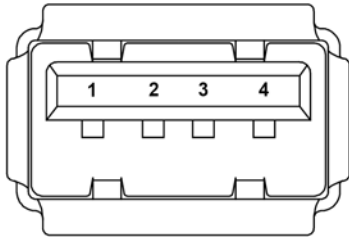

Figure 4-25: USB Connector Pinout Locations
- CN Pinouts: See Figure 4-25 and **Table 4-25**